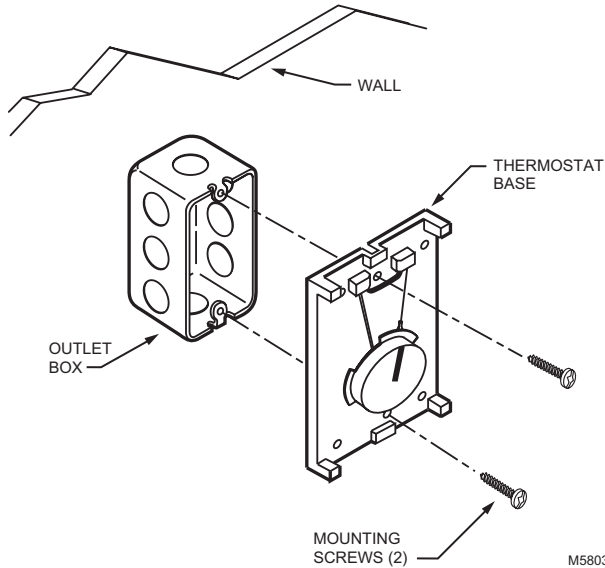

Fig. 4. Mounting thermostat on outlet box.
8. Mount the thermostat on the outlet box. Tighten the two mounting screws (included) to secure the thermostat, taking care to avoid excessive pressure on the setting dial. See Fig. 4.
7. Mount the thermostat on the outlet box. Tighten the two mounting screws (included) to secure the thermostat, taking care to avoid excessive pressure on the setting dial. See Fig.4.